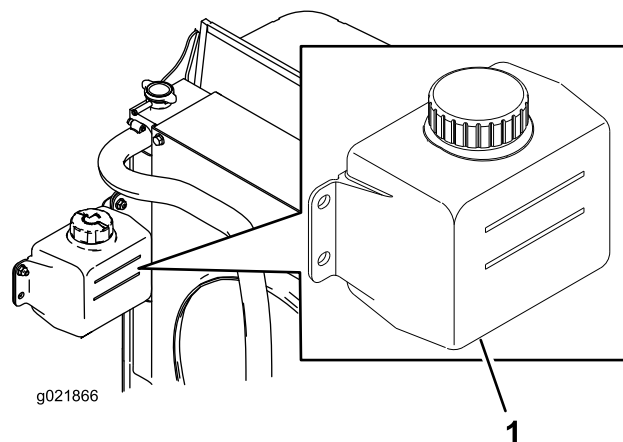

Figure 12
1. Check the level of coolant in the expansion tank (Figure 12).